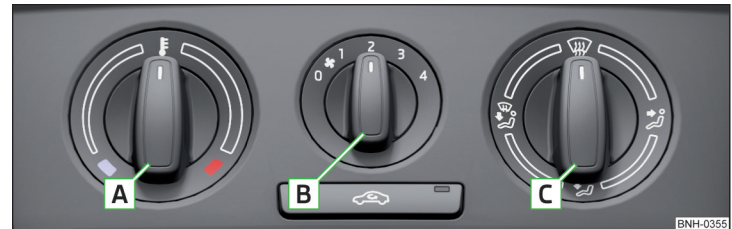
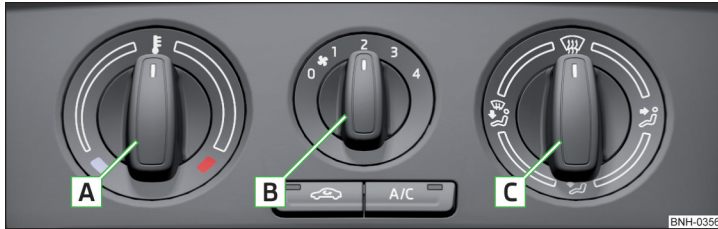

Fig. 84 Heating Controls
Fig. 85 Controls of the air conditioning
The air recirculation mode is automatically turned off by turning the air distribution control **C** to position  » Fig. 84 on page 87 or » Fig. 85 on page 88.
### Functions of the individual controls » Fig. 84
**Functions of the individual controls** » Fig. 85